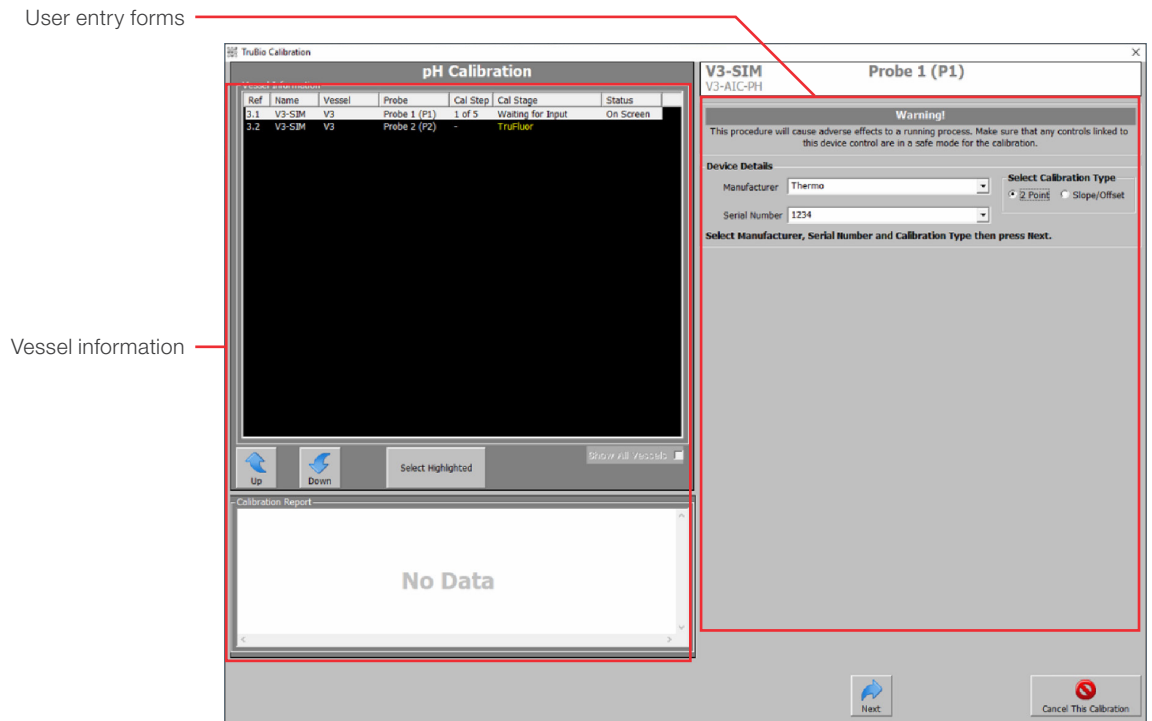

Figure 3.10. pH Calibration window.
1. From the **Calibration** tab of the **Detail** window, click **Calibrate**. This opens a series of screens that will walk you through the process (Figure 3.10).
2. Enter the manufacturer and the serial number of the probe to be calibrated under **Device Details**. If the probe has previously been calibrated, you can select the serial number from the Serial Number drop-down menu (see Figure 3.10).